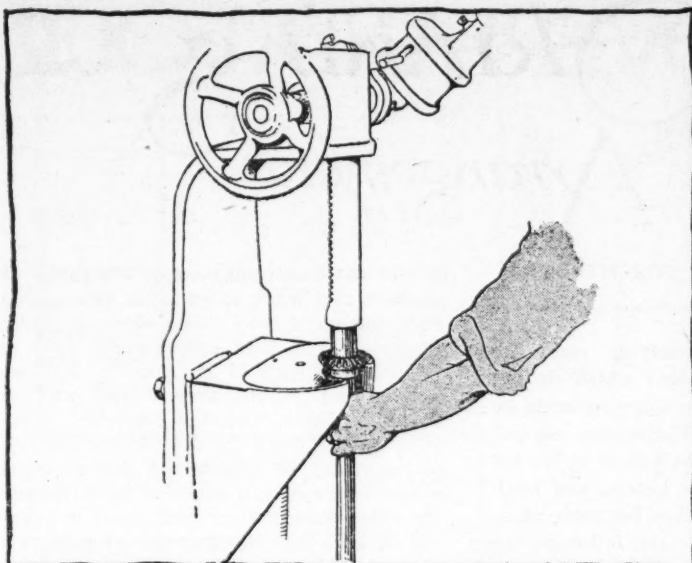

Fig. 30. Pressing pinion off rear axle shaft
23. Remove rear axle shafts. If new axle shaft is to be installed, place axle in arbor press and use short tube fitted over end of shaft at gear end—see Fig. 30. Force gear down on shaft and remove split washer. Press gear off of shaft. Remove rear axle gear key.